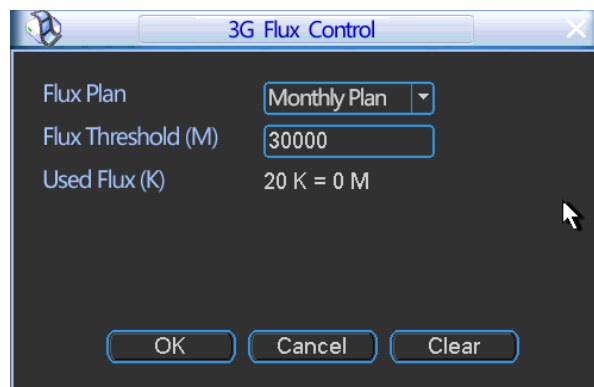

Figure 4-1
- 3G flow control: It is to show the 3G flow you used. See Figure 4-1.